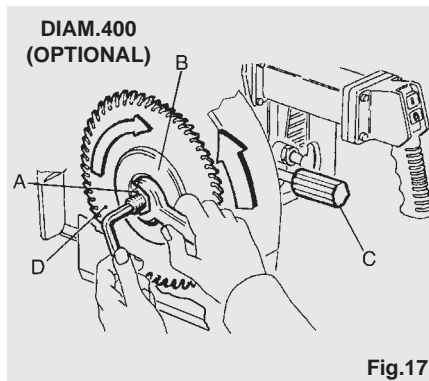

Fig.17
Open the blade cover guard, use the handle (C) to loosen the locking, move the lower guard to the lower end and stop it in this position. After locking the guard, there will be enough space for the blade clamping flange passage (B). To loosen the nut with left-hand thread (A) in Fig. 17, hold the output shaft introducing a socket head screw as shown in Fig. 17 and use an open key clockwise. Mind not to hurt yourself against the blade while carrying out this operation. To this purpose, we suggest you wear gloves. Pull out the external flange (B) so as to reach the blade's housing (D). Remove the
Mind that the direction of the blade's teeth is the same as shown in Fig. 17. Blades must have a central hole of  $\varnothing 30$  mm ( $\varnothing 1$ " ) and max diameter of  $\varnothing 400$  mm ( $\varnothing 14$ " ),  $\varnothing 450$  mm ( $\varnothing 16$ " ) depending on the casing and motor (shaft in inches) fitted on the machine.